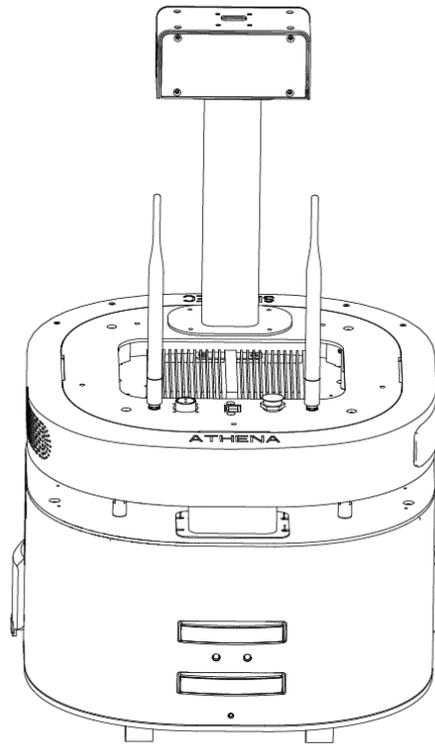
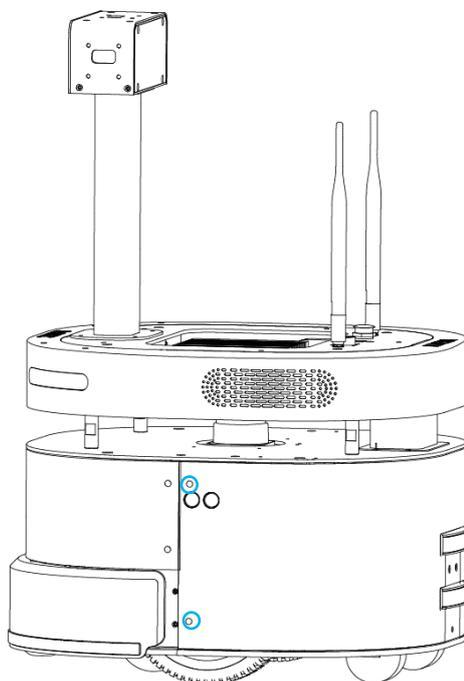
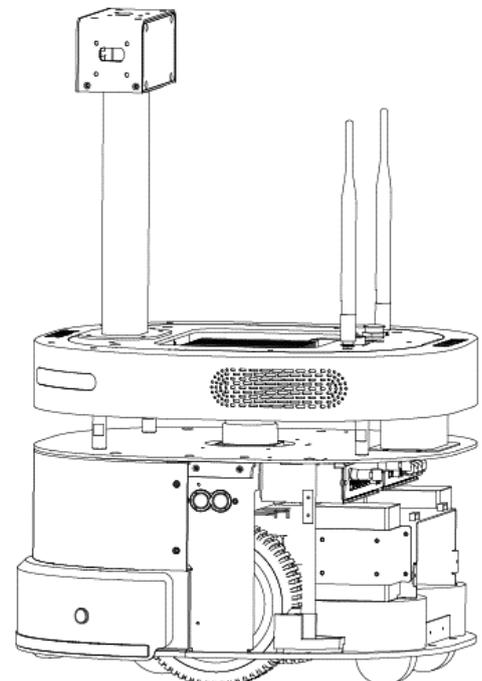

Figure 11
Figure 12
Figure 13
1. As shown in Figure 11, the side with charging electrodes is the back cover of Athena and you need to take it down to put battery in. And you can start from removing the blue circled M3*8 screws in Figure 12, there are four M3*8 screws in total. And then you can remove the whole Athena back cover from Athena as shown in Figure 13.